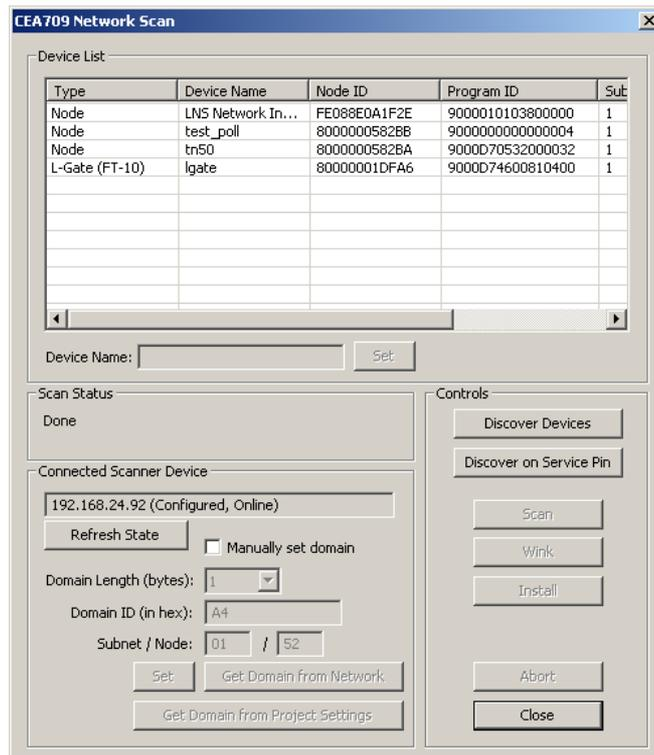

Figure 76: CEA-709 network scan dialog.
- Right-click on that folder and select **Scan CEA709/852 Network...**. This opens the CEA709/852 Network Scan dialog as shown in Figure 76.